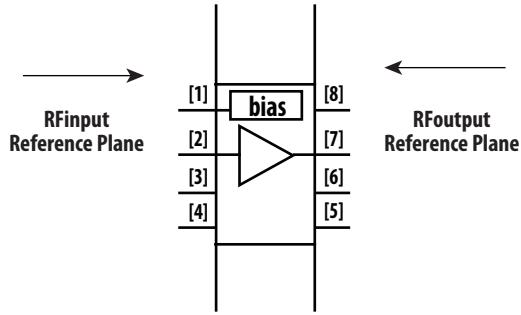

Figure 32
2. Scattering and noise parameters are measured on coplanar waveguide made on 0.010 inch thick ROGER 4350. The input reference plane is at the end of the RFinput pin and the output reference plane is at the end of the RFoutput pin as shown in figure 32.